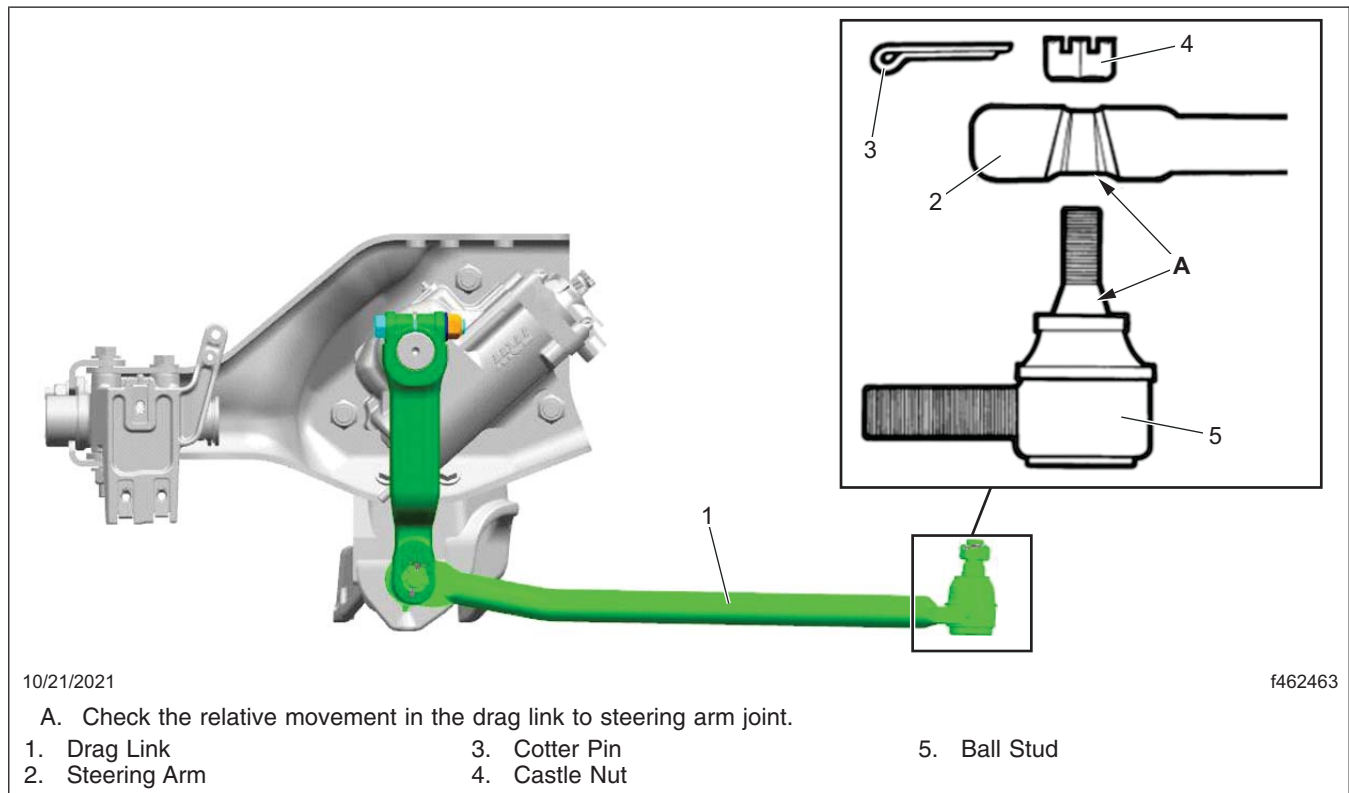

Fig. 1, Drag Link to Steering Arm Joint
5. Observe the behavior of the drag link steering arm joint. See Fig. 1.